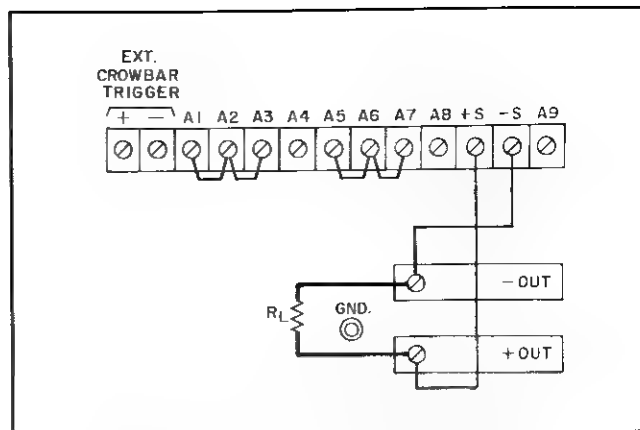

Figure 3-2. Normal Strapping Pattern
a. Turn CURRENT controls (7) and OVERVOLTAGE ADJUST potentiometer (5) fully clockwise and check that rear panel straps are connected as shown in Figure 3-2, but do not connect load  $R_L$ .
c. Set LINE switch or circuit breaker (1) ON and observe that pilot lamp (2) lights.
d. Adjust COARSE and FINE VOLTAGE controls (3) for desired indication on voltmeter (4).
e. Ensure that overvoltage crowbar circuit is operational by slowly turning OVERVOLTAGE ADJUST control (5) counterclockwise with a screwdriver until OVERVOLTAGE lamp (6) lights and voltmeter indication drops to zero volts.
g. To check the constant current circuit, first turn off the supply, connect ■ short across the output bus bars (see Figure 3-2), and turn it back on.
h. Adjust **COARSE** and **FINE CURRENT** controls ⑦ until ammeter ⑧ indicates desired output current or current limit. (The **VOLTAGE** controls must be set for a greater-than-zero output to obtain the output current programmed.)
3-7 This power supply was shipped with the proper rear panel strapping connections made for constant-voltage/constant-current operation with local sensing and local programming. This strapping pattern is illustrated in Figure 3-2. By means of the front panel voltage and current controls, the operator selects either a constant-voltage or a constant-current output. Whether the supply functions in the constant-voltage or the constant-current mode depends on the settings of the voltage and current controls and on the resistance of the output load. For values of load resistance greater than a critical crossover value equal to the voltage setting divided by the current setting, the supply operates in the constant-voltage mode. With a load resistance smaller than this critical value, it operates in the constant-current mode. The transition occurs automatically; no switches need to be operated or connections changed.
3-28 Because of the unavoidable voltage drop developed in the load leads, the normal strapping pattern shown in Figure 3-2 will not provide the best possible voltage regulation at the load. If, for example, one were to use 4-gauge wire to connect a load that is located only 5 feet from a
*The +S jumper is the one that links the +S terminal to the +OUT terminal when the supply's terminals are strapped for normal operation as shown in Figure 3-2. The -S jumper is the one that links the -S terminal to the -OUT terminal.*